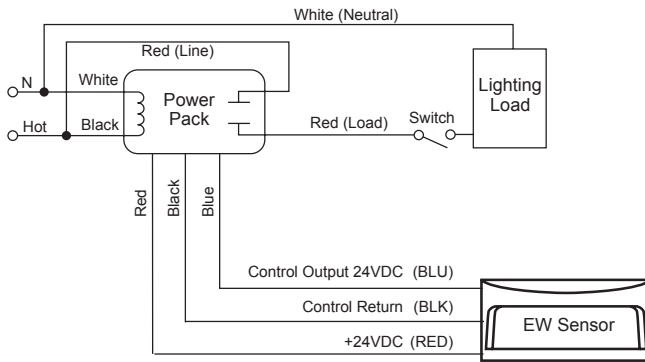
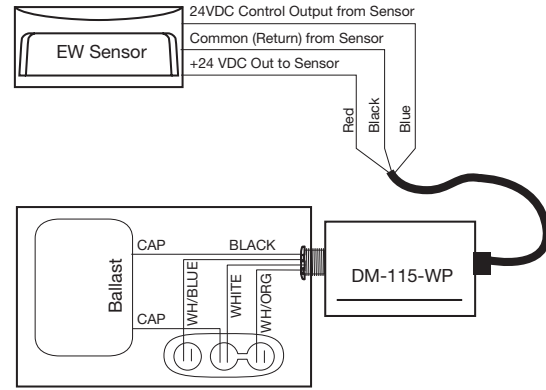

Figure 4. EW-205-24 wiring with power pack.
Figure 5. EW-205-24 wiring with DM-115-WP HID control.
1. The EW-205-24 can be powered from either a power pack or HID Dimming Module. Wire the sensor to a power pack by attaching the wires as shown in figure 4 below. Wire the sensor to a HID controller by attaching the wires as shown in figure 5 below.